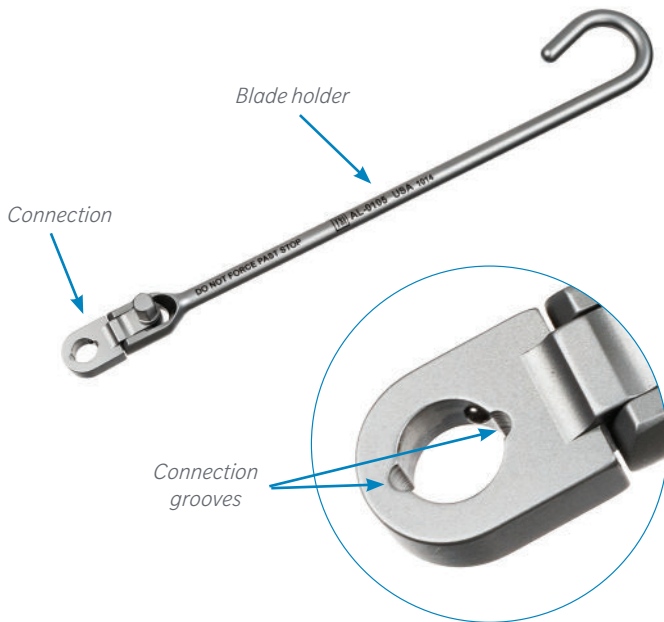
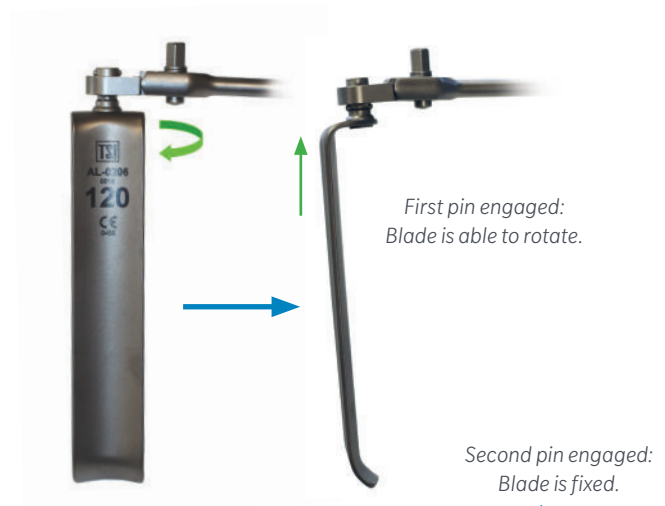

Figure 9
Figure 10
- To attach the retractor blade to the blade holder, insert the blade through the blade holder connection so that the first pin of the connector can pass through the groove in the blade holder (Figure 9). When the first pin is engaged with the blade holder, the blade is attached and able to rotate (Figure 10).